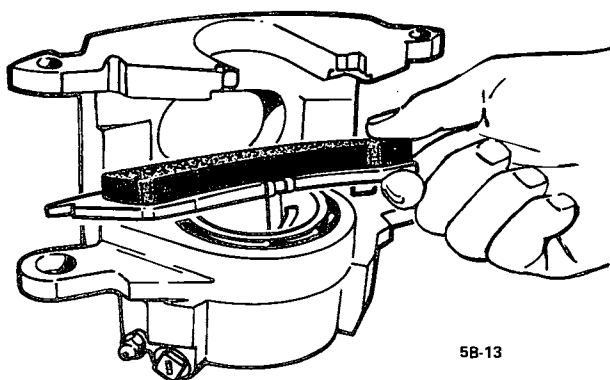

Figure 5B-15—Inserting Shoe Support Spring
3. Install the shoe support spring by replacing the single tang end of the spring over the notch in the center of the edge of the shoe. Then press the two tangs at the spring end of the inboard shoe spring over the bottom edge of the shoe so that they engage the shoe securely, as shown in Figure 5B-15.